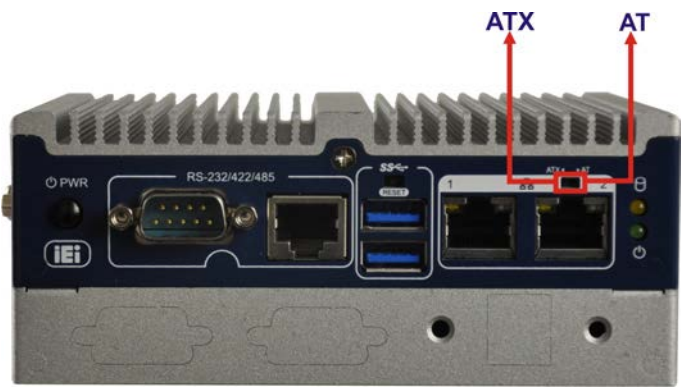

Figure 3-15: AT/ATX Switch Location
AT or ATX power mode can be used on the ITG-100-AL. The selection is made through an AT/ATX switch located on the front panel (Figure 3-15). To select AT mode or ATX mode, follow the steps below.
Step 1: Locate the AT/ATX switch on the front panel (**Figure 3-15**).